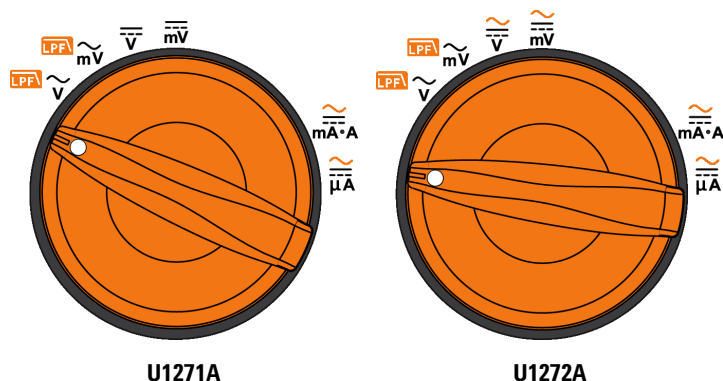

Figure 2-36 Functions allowing frequency measurement
Your multimeter allows simultaneous monitoring of real-time voltage or current with frequency, duty cycle, or pulse width measurements. Figure 2-36 highlights the primary functions allowing frequency measurements in your multimeter.
1 To measure frequency, rotate the switch to one of the primary functions allowing frequency measurements highlighted in Figure 2-36.
- 1 To measure pulse width, position the rotary switch to one of the functions allowing frequency measurements shown in Figure 2-36.
- 1 To measure duty cycle, position the rotary switch on one of the functions allowing frequency measurements shown in Figure 2-36.